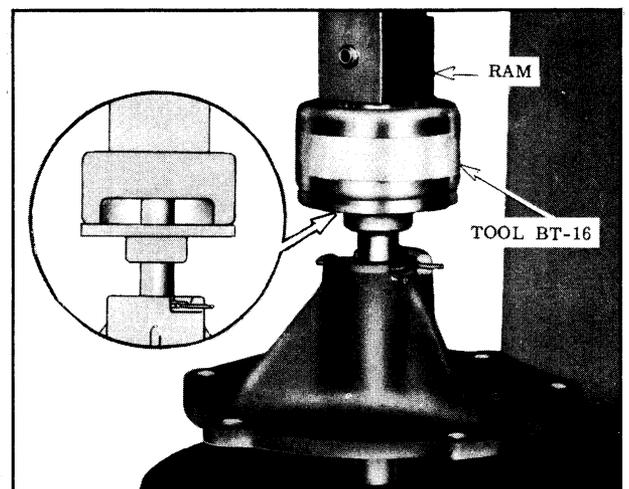

Fig. 8-62 Installing Fan Hub
4. Install fan hub with Tool BT-16, Fig. 8-62. Assembly must be supported on bearing shaft; otherwise, damage to bearing will result.